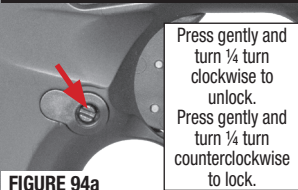

FIGURE 94a
- Follow the guidelines in (FIGURES 94a and 94b) to remove and install the magazine release. $\frac{1}{4}$ turn is all that is required, in either direction, to unlock and lock the part into the frame.